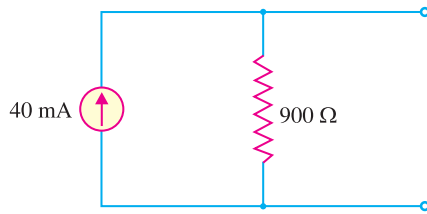

Fig. 1.48
2. Convert the current source in Fig. 1.48 into the equivalent voltage source.